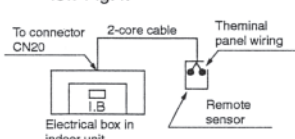

Fig.3
- The wiring connection of the indoor unit's electrical box and remote sensor is shown in Fig.3. There are three methods of connecting the 2-core cable to the electrical box.